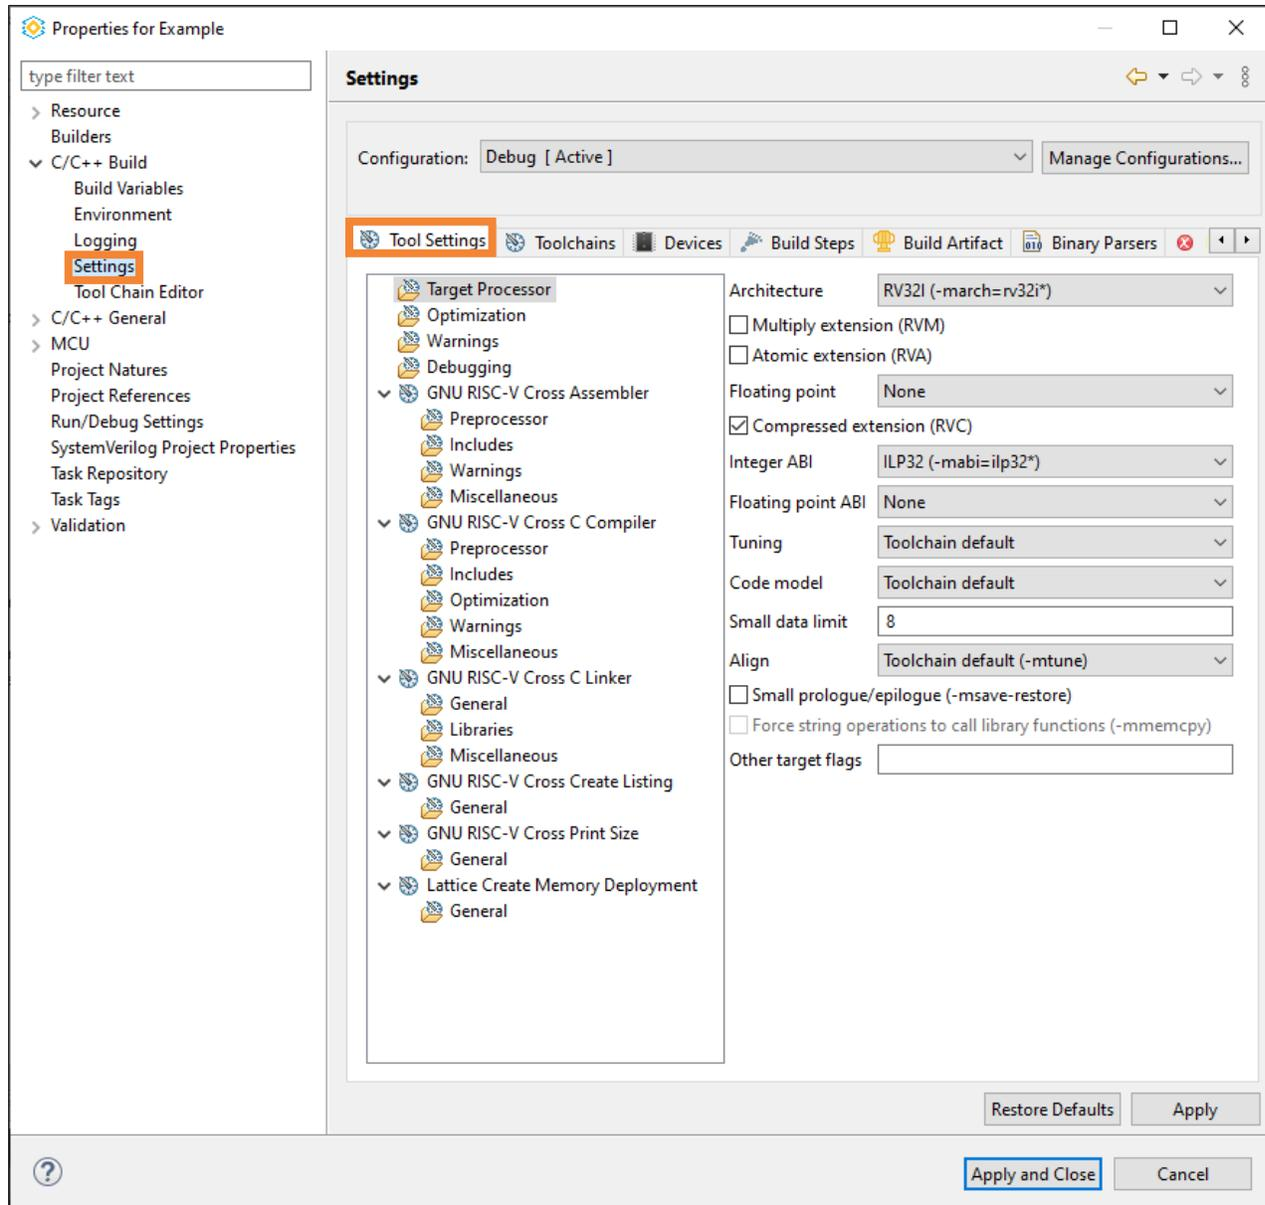

Figure 3.33. Properties of C/C++ Project
2. Choose **Project > Properties**. The Properties for the current project opens (Figure 3.33).